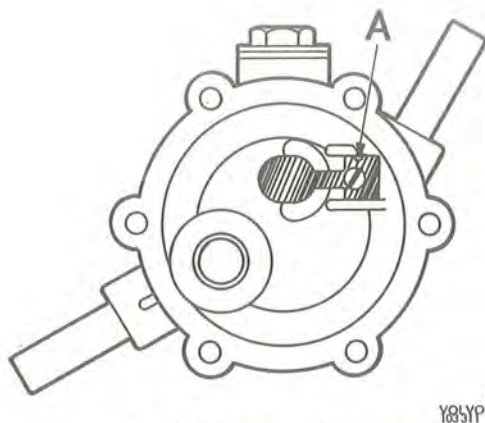

Fig. 2-74. Location of inlet valve
1. Fit the inlet valve, see Fig. 2-74, and the stop arm. Tighten the screw, but only sufficiently so that the spring lies well against the pump body.
2. Fit the spring (8) and guide (9). Prise on the rubber seal (10) with the flange facing inwards towards the guide.
4. Press down the diaphragm, move in the lever (14) make sure that it locates correctly in relation to the diaphragm rod. Fit the pin (12), circlip (13), spring retainer (15) and spring (16).